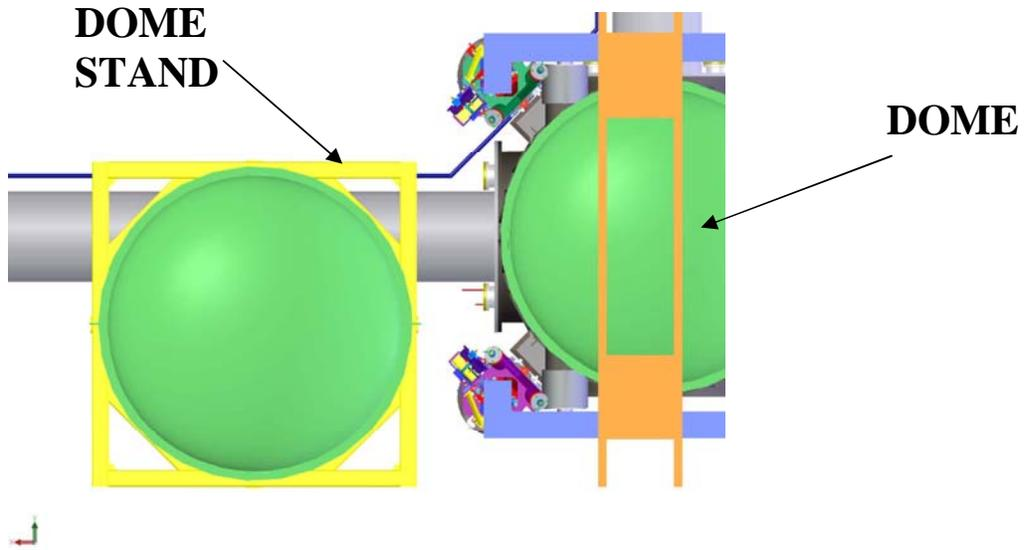

FIG. 2
5. Lift dome and place onto yellow dome stand (fig 2).